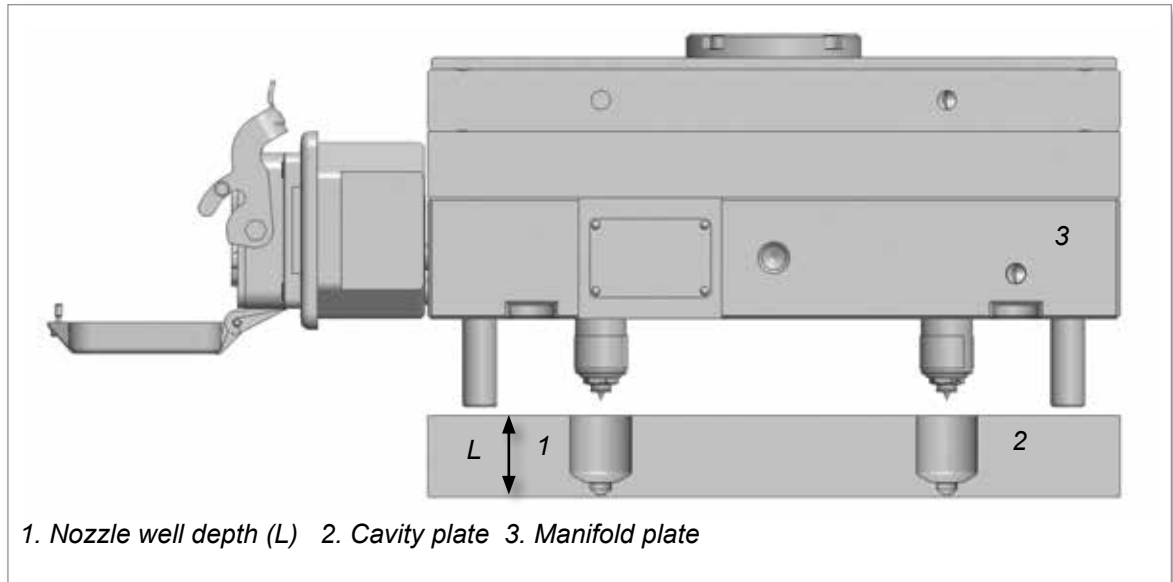

Figure 6-1 Nozzle depth
See Figure 6-1.
1. Check that the nozzle well depth (L) in the cavity plate is to *Mold-Masters* specifications. See Figure 6-1.